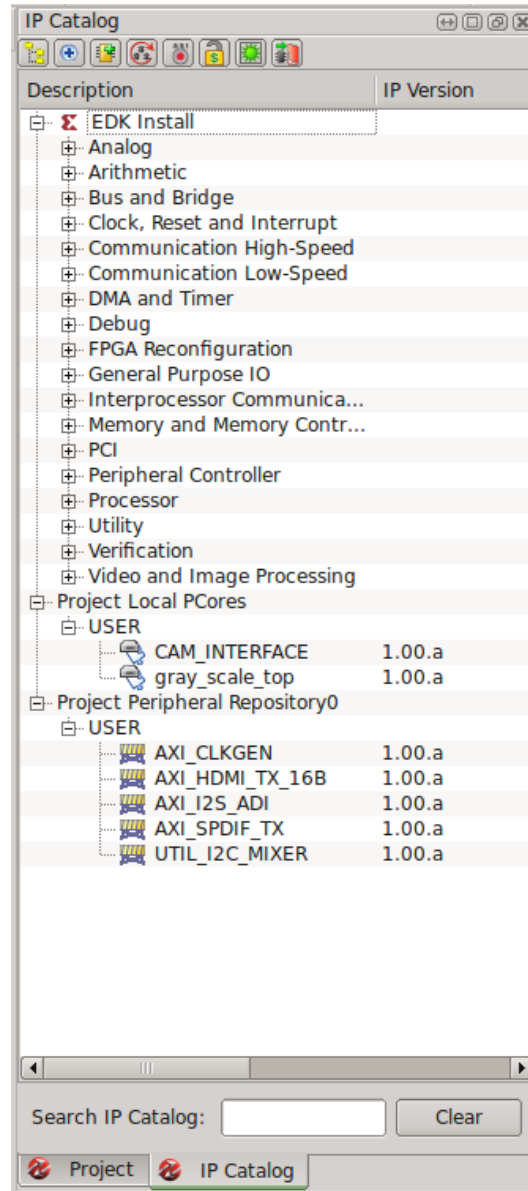

Figure 1.4.: User IPs in the IP Catalog panel.
7. On XPS to update the IP-catalog, do the rescan. *Project>Rescan User Repositories*. Now you should see the user IPs as in Figure 1.4 in the IP-catalog panel.